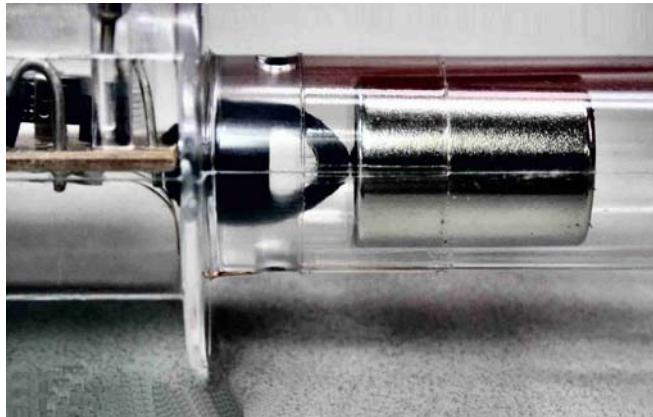

Fig. 21 — Magnet against front bumper.
**C - Front Bumper:** The front bumper and the rear bumper are the same. They are part of the mechanical parts that are tooled especially for the product. The purpose is to absorb the energy of the moving magnet. You will notice the shape of the bumper shown in figure 21. The magnet is quite heavy and it is human nature to want to shake the FFL very hard - even though the instructions say not to. The material is similar to a hard rubber.